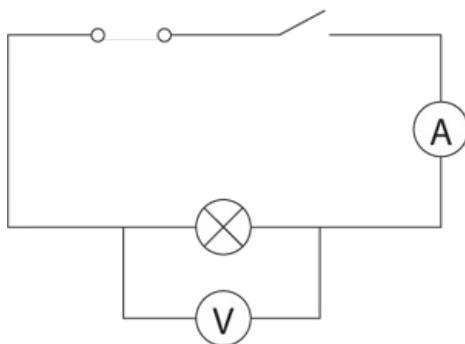

Figure 6.1: Circuit diagram.
- 2 Set up the circuit shown in Figure 6.1. The voltmeter should be set in the range 0-20 V. The ammeter should be set in the range 0-200 mA.